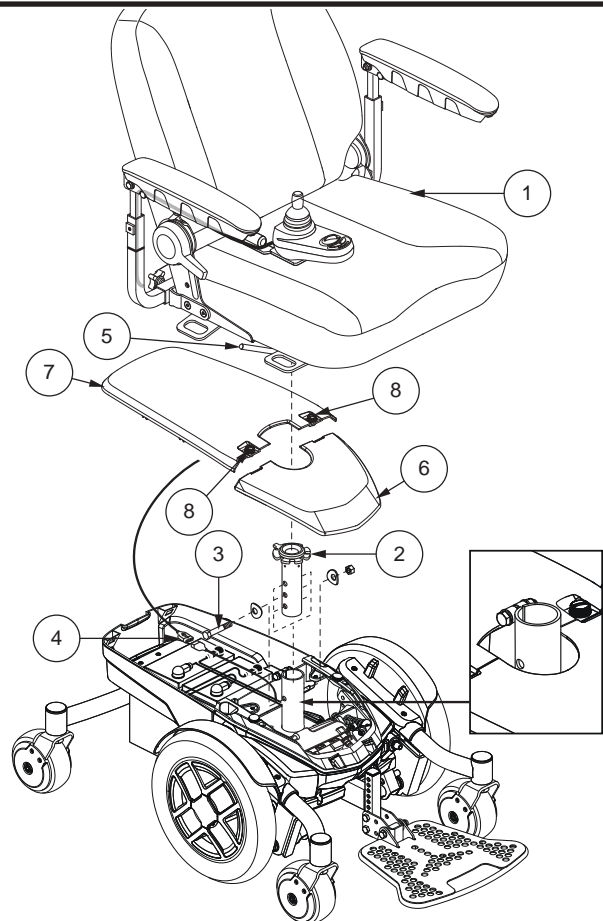

Figure 12. Seat Height Adjustment
3. Disconnect the controller connector from the power base. See figure 12.
4. Disengage the seat release lever. See figure 12.
7. Loosen the hardware at the rear of the seat post. See figure 12.
8. Remove the seat height adjustment bolt, washers, and nut from the seat post. See figure 12.